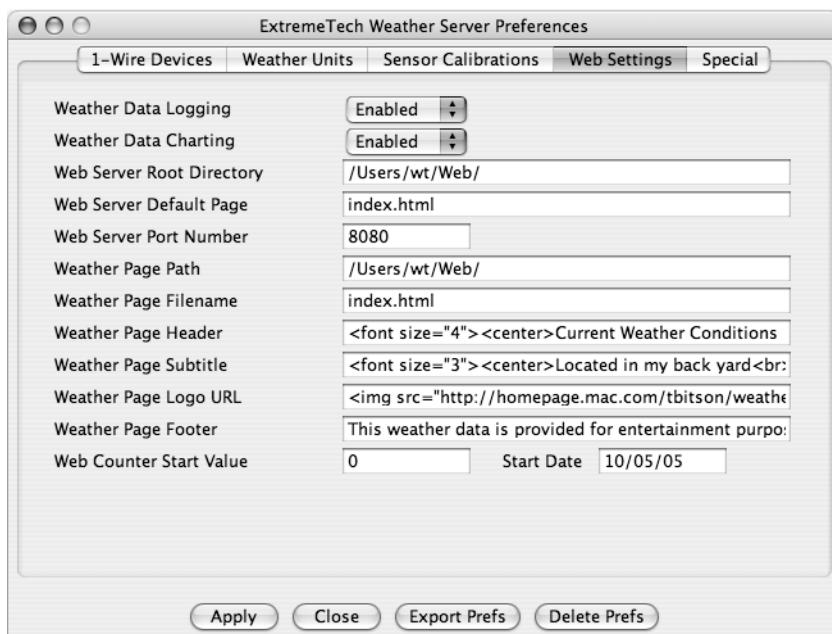

FIGURE B-5: Web Settings tab.
19. Click the Web Settings tab to view the various setting for the web server. These were automatically configured for you with the default directory you specified during initial startup. Leave these settings at their default values for now. Figure B-5 shows the setting configured with my defaults.
Referring to Figure B-5, there are many settings to configure the web page. ETWS uses the same web server as SimpleWeather. Review Chapter 12 for a discussion on configuring the web server, and accessing the web page from your network or the Internet.